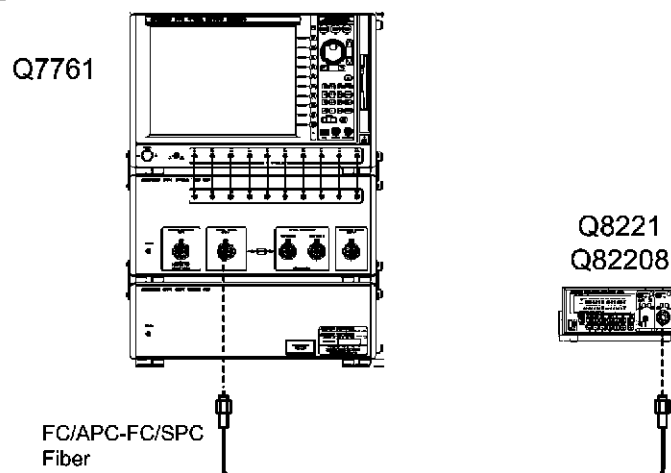

Figure 2-12 Connection for OPTICAL SIGNAL OUTPUT Output Power Measurement
2. Connect equipment as shown in Figure 2-12.